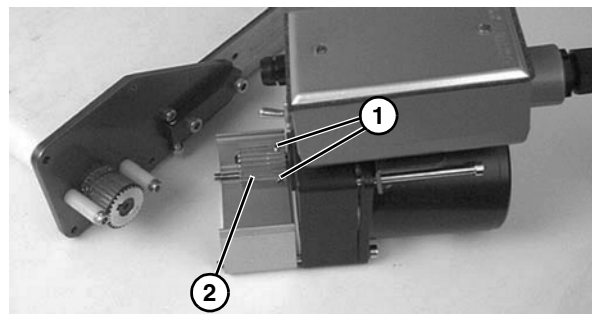

Figure 61
4. Loosen set screws (**Figure 61, item 1**) and remove drive pulley (**Figure 61, item 2**).
5. Replace drive pulley (**Figure 61, item 2**) on new gearmotor and tighten set screws (**Figure 61, item 1**) to 33 in-lb (3.7 Nm).